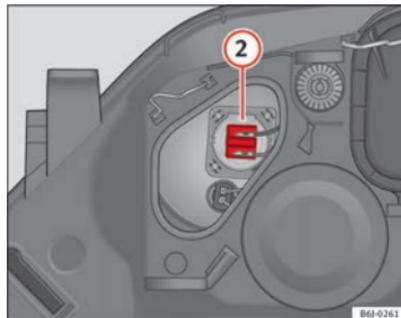

Fig. 152 Main beam headlights
- Remove connector ⇒ fig. 152 ② by pulling outward.